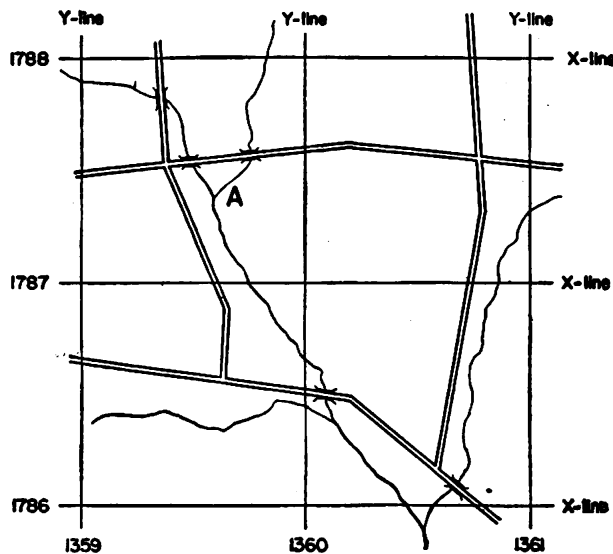

FIGURE 241.—Rectangular coordinates; 1,000-yard grid printed upon a terrain map (1 : 20,000 scale). (Not reproduced to scale.)
146. Location of a position by coordinates.—**Q.** How are military maps divided? **A.** Into squares 1,000 yards on a side by two sets of parallel lines, one of these sets being at right angles to the other. (See fig. 241.)
A. The country is divided into zones running north and south, each covering 9° of latitude. The central true meridians of adjacent zones are 8° apart, hence there is an overlap of 1° at the boundaries, included in both adjacent zones. The west longitudes of the central meridians of the zones are 73° , 81° , 89° , 97° , 105° , 113° , and 121° . In each zone the Y lines are all parallel to the central true meridian. The direction of the Y line at any point is called grid north; it is the same as true north only at the center of the zone. The X lines are perpendicular to the Y lines, and so they are true east and west lines only at the center of the zone. In each zone the origin of coordinates, or zero point, is to the west and south of the zone, and hence all coordinates are positive. (See fig. 241.)